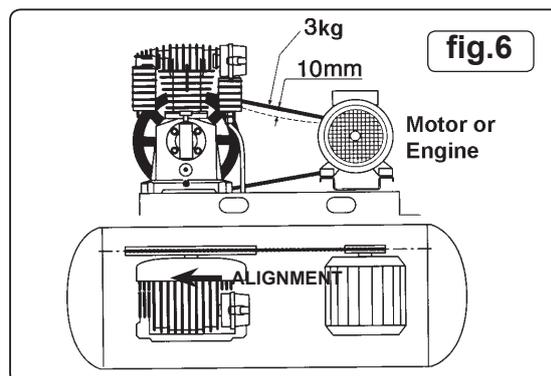

fig.6
- Check belt tension. A weight of 3kg applied at the belt mid-point should give a deflection of approximately 10mm (fig.6). If adjustment is required, maintain the alignment of the two pulleys (fig.6). Adjust by repositioning the engine, using the screw adjuster provided in the base plate.